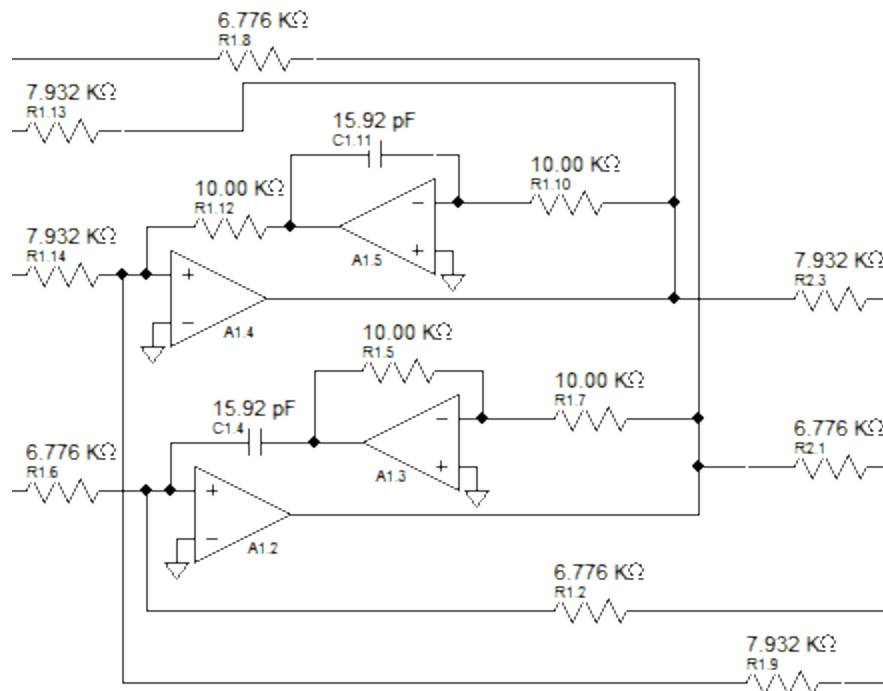

Figure A1:Leap Frog Transmission Zero Negative Gain Stage With Miller Integrator and Differentiator
1. Parallel Miller integrator and differentiator (4 opamps, Figure A1 Below)